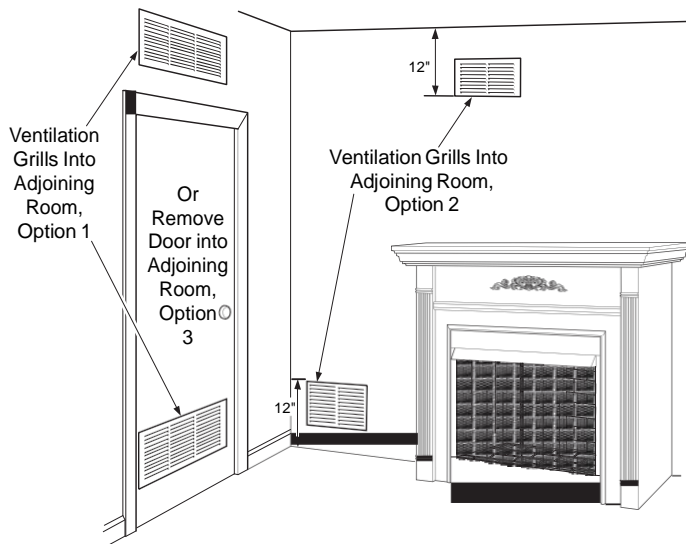

Figure 4 - Ventilation Air from Inside Building
This fresh air would come from an adjoining unconfined space. When ventilating to an adjoining unconfined space, you must provide two permanent openings: one within 12" of the ceiling and one within 12" of the floor on the wall connecting the two spaces (see options 1 and 2, Figure 4). You can also remove door into adjoining room (see option 3, Figure 4). Follow the National Fuel Gas Code, ANSI Z223.1/NFPA 54, Air for Combustion and Ventilation for required size of ventilation grills or ducts.
- where curtains, furniture, clothing, or other flammable objects are less than 36" from front or 42" from top of firebox; for side clearances see Figure 4, page 8
Example: The face of a mantel, bookshelf, etc. is made of combustible material and protrudes 3 1/2" from the wall. This combustible material must be 4" from the side of the fireplace cabinet (see Figure 4, page 8).